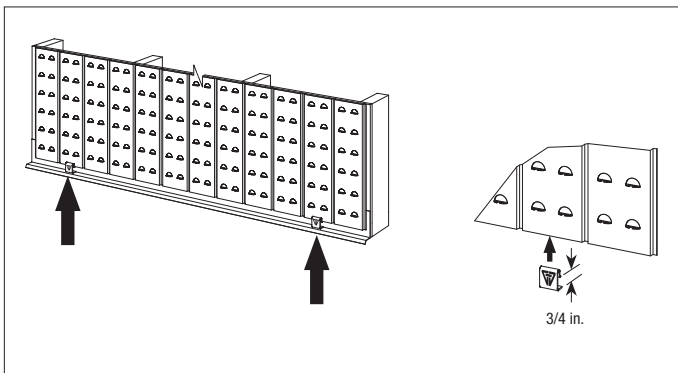

FIGURE 4
- For *Elite* applications, slide Thin Tech spacers with “GG” logo upright and facing forward, fully onto the bottom edge of first (lowest) row panels, and position panels with the spacer resting on the horizontal leg of the starter angle and vertical edges aligned over studs, see Figure 4. (If Thin Tech spacers are not used, position panels so that their bottom edges are 3/4 in. above the horizontal leg of the starter angle and their vertical edges align over studs.)